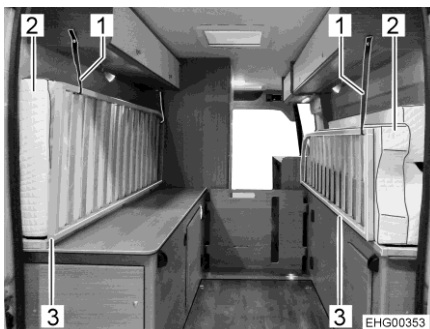

Fig. 39 Mattresses and bed bases
- Fold the mattresses (with middle board and crossbeam) to the right and to the left side, see Fig. 39.
- Fold both bed bases (Fig. 39,3) up.
- Secure the mattresses (Fig. 39,2) and bed base on both sides with the retaining belt (Fig. 39,1).